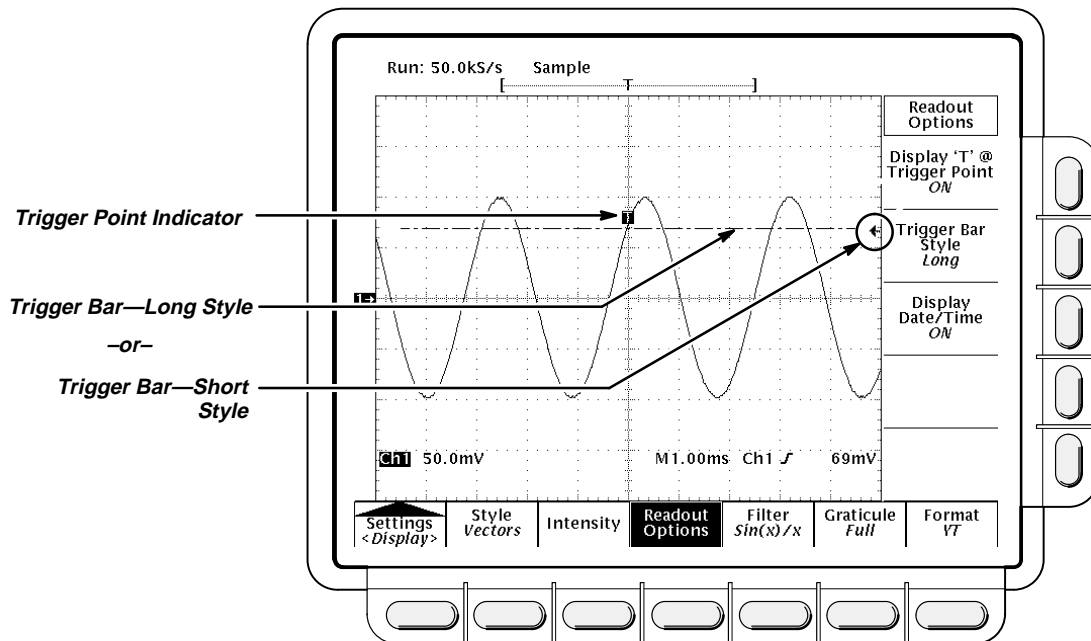

Figure 3-17: Trigger Point and Level Indicators
3. Press **Trigger Bar Style** (side) to select either the short or the long trigger bar or to turn the trigger bar off. (See Figure 3-17. Note that both styles are shown for illustrating purposes, but you can only display one style at a time.)